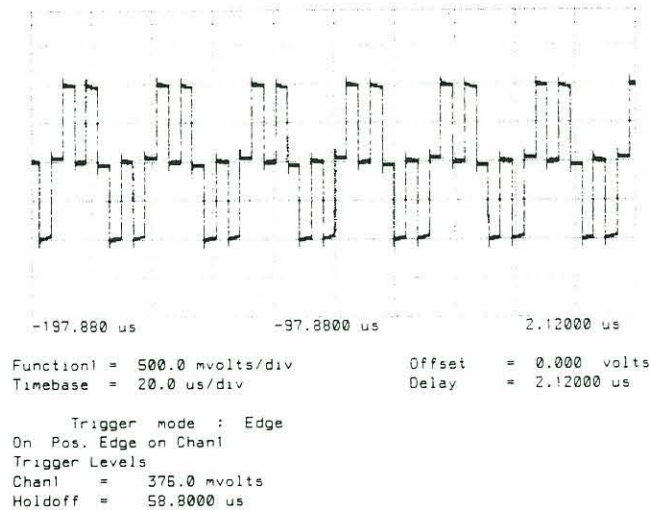

Figure 8-40 64 kbit/s Coded Output
7. Re-adjust the Oscilloscope controls and check the display is as shown in Figure 8-40.